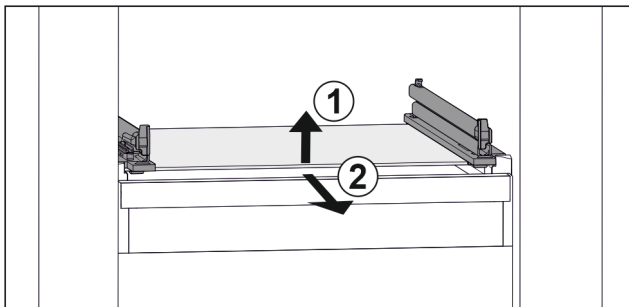

Fig. 97 Example illustration of glass shelf
- ▶ Lift glass shelf at the front. *Fig. 97 (1)*
- ▶ Take out glass shelf to the front. *Fig. 97 (2)*